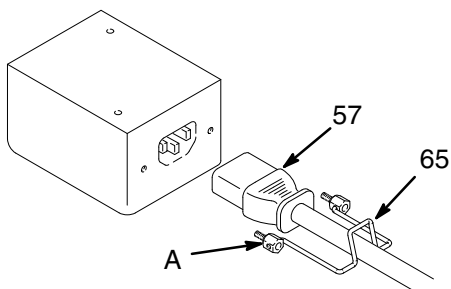

Fig. 2
1. **Plug the power cord (57)** into the inlet receptacle located below the motor. Tighten the screws (A) of the cord wire clamp (65) securely. See Fig 2. If the power cord you are using does not have a male plug attached, have a qualified electrician install an appropriate plug.